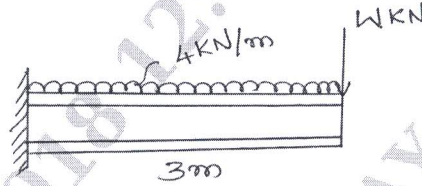

Fig.Q6(a)
- 6 a. A cantilever has an I section with unequal flanges. The upper and lower flanges are (200mm × 14mm) and (100mm × 14mm) respectively. The web is (14mm × 250mm). The cantilever is subjected to UDL of magnitude 4 kN/m over its entire length of 3m and a point load W at the free end as shown in Fig.Q6(a). Yield stress for the material of beam is 330MPa. Taking the factor of safety as 2, determine the magnitude of maximum load W that can be applied. (10 Marks)